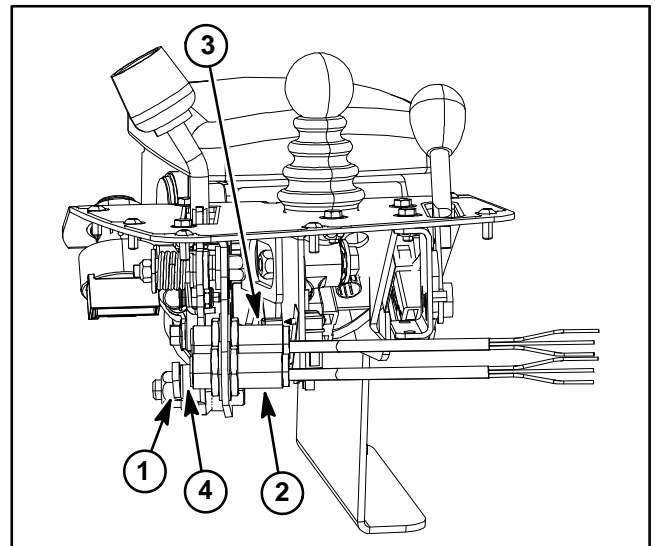

Figure 32
2. When the functional control lever is placed in the neutral or mow position, the gap between the appropriate switch head and the tab on the functional lever should be from **0.090" to 0.120" (2.3 to 3.0 mm)** (Fig. 32).